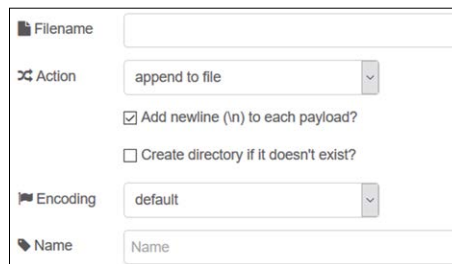

Figure 10.3 Configure node file
- Create a **file** node and configure it as shown in Figure 10.3. Notice that the **Action** is set to Append to file, and a new line is to be added after each record